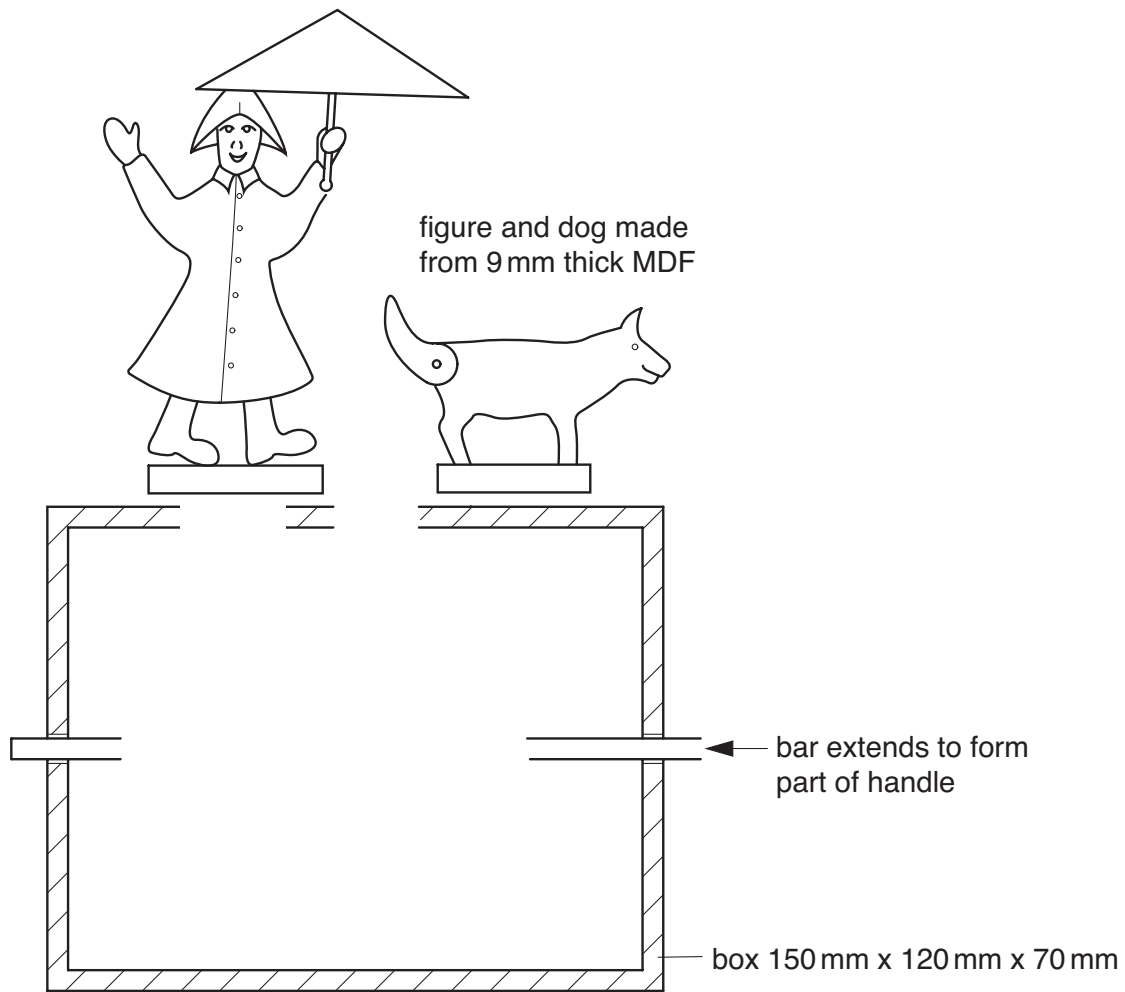

Fig. 9
- 9 Fig. 9 shows an incomplete idea for a mechanical toy. Most of the toy is made from wood.